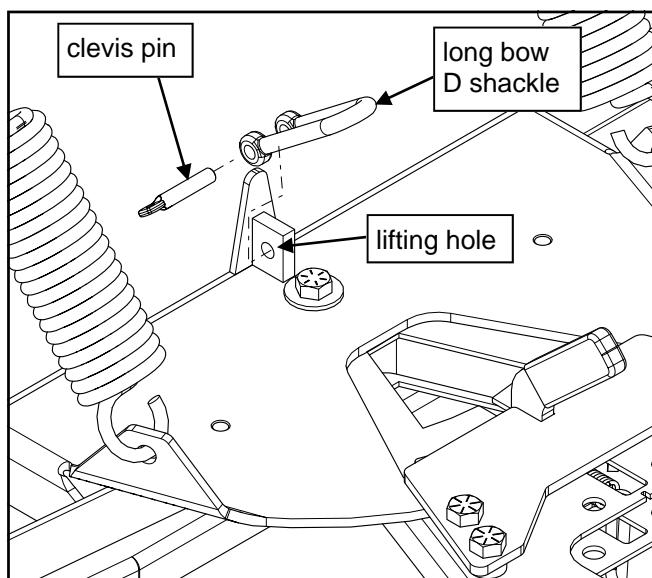

Fig. 4.1 (Winch Shackle)
4.1 Straddle the disassembled D Shackle over the vertical lifting hole tab and install the threaded clevis pin. Close the shackle by threading the clevis pin into the threads on the opposite side of the shackle. See Fig. 4.1.